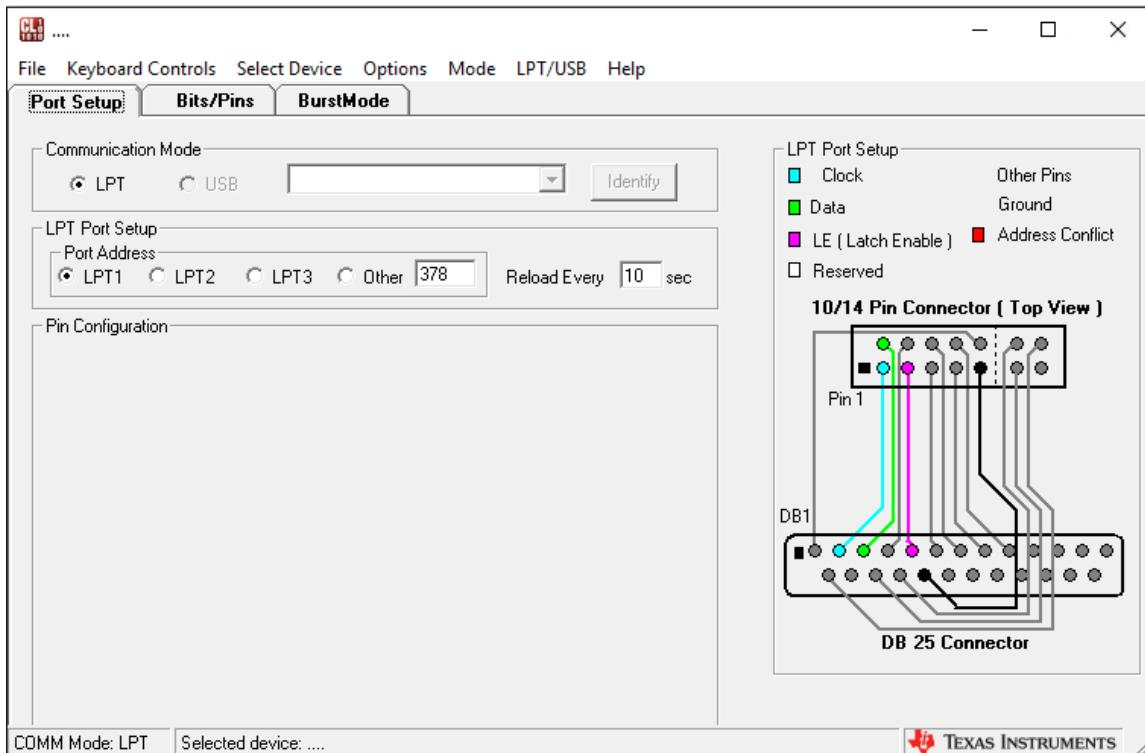

Figure 5-9 Codeloader
5. Firstly, download “CodeLoader” Software(See **Figure 5-9**), which is provided by TI. This tool can help users to set the LMK04096B's output frequency of each channel through the GUI interface, and it will automatically calculate the Register parameters required for each frequency. The tool download link: